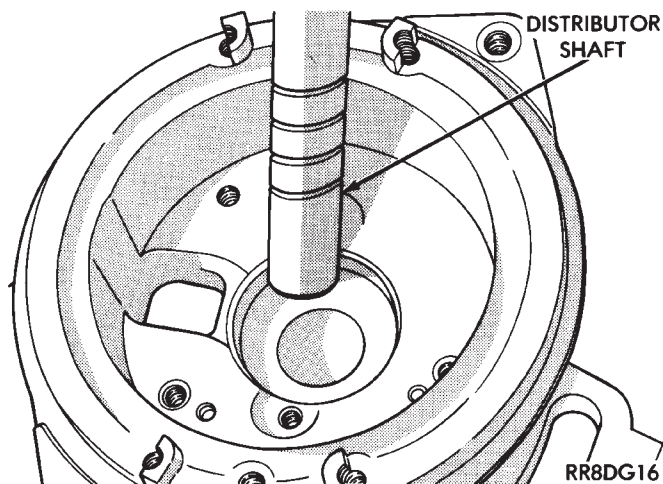

Fig. 36 Distributor Shaft
- (13) Remove distributor shaft and bearing assembly (Fig. 36).